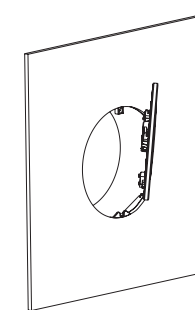

Figure 5
- 2) Screws on the lamp and face upward, the surface of the cover should be hooks on to the surface of the cover(Figure 5).